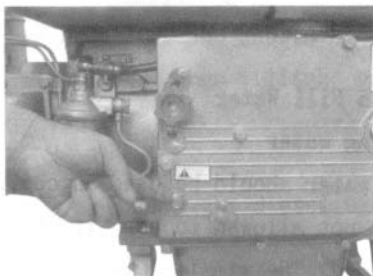

Fig. 9 Check on Indicator and See if it Rises Up
3.3.2 Check to see if the oil indicator is rising up. The lubrication system is abnormal if it does not rise up or drops suddenly, stop the engine at this time and fill lubricant oil fully or remove troubles (Fig.9).